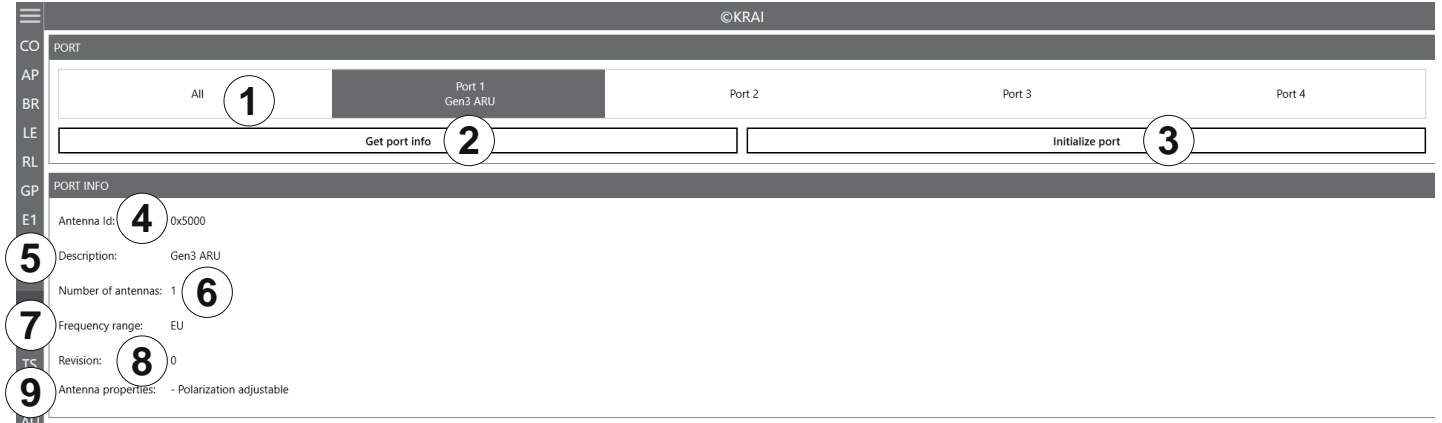

Fig. 78: @KRAI: polarisation
④	TID memory bank	<p>specifies how the TID memory bank is accessible</p> <ul style="list-style-type: none"> ► Select an option from the drop-down menu; see the options at ③.
⑤	User memory bank	<p>specifies how the User memory bank is accessible</p> <ul style="list-style-type: none"> ► Select an option from the drop-down menu; see the options at ③.
⑥	Lock selected tag	locks the selected tag with the settings from ①–⑤
⑦	Lock all tags	<p>locks all the tags with the settings from ①–⑤</p> <div style="border: 1px solid black; padding: 10px; background-color: #f0f0f0;">  <p>▶ To lock all the tags, make sure that all the tags have the same password.</p> </div>
▶ To deactivate a tag, set a deactivation password that is not 0; see ② in *Fig. 78, p. 120*.